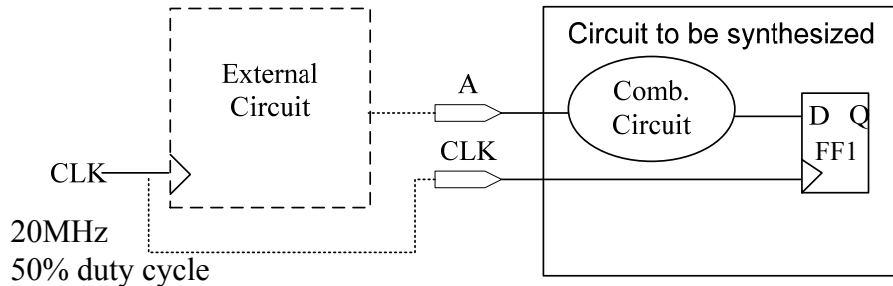

Figure Q4a
- Q.4 (a) Assume that the clock skew and clock network latency from CLK port to FF1 in the circuit shown in Figure Q4a are 0.5 ns and 1 ns, respectively.